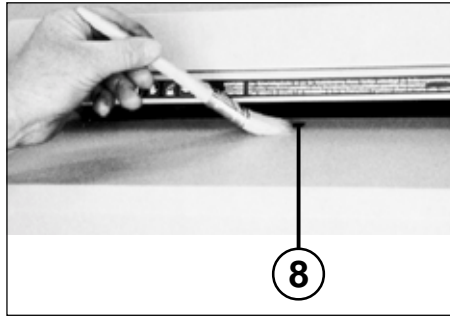

fig. 4
- 8 = Light barrier (forward operation) (fig. 4)**
### CLEANING THE PHOTOCELLS (8) (Fig. 4):